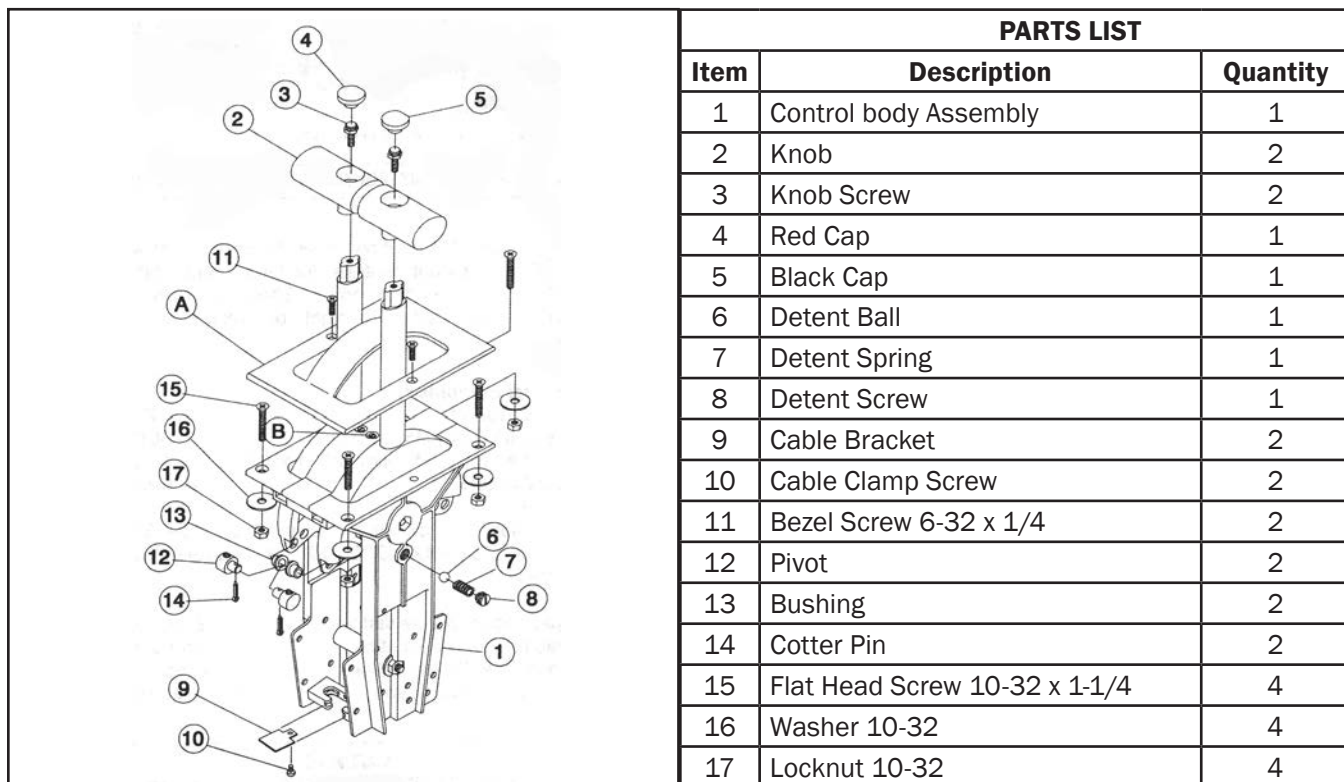
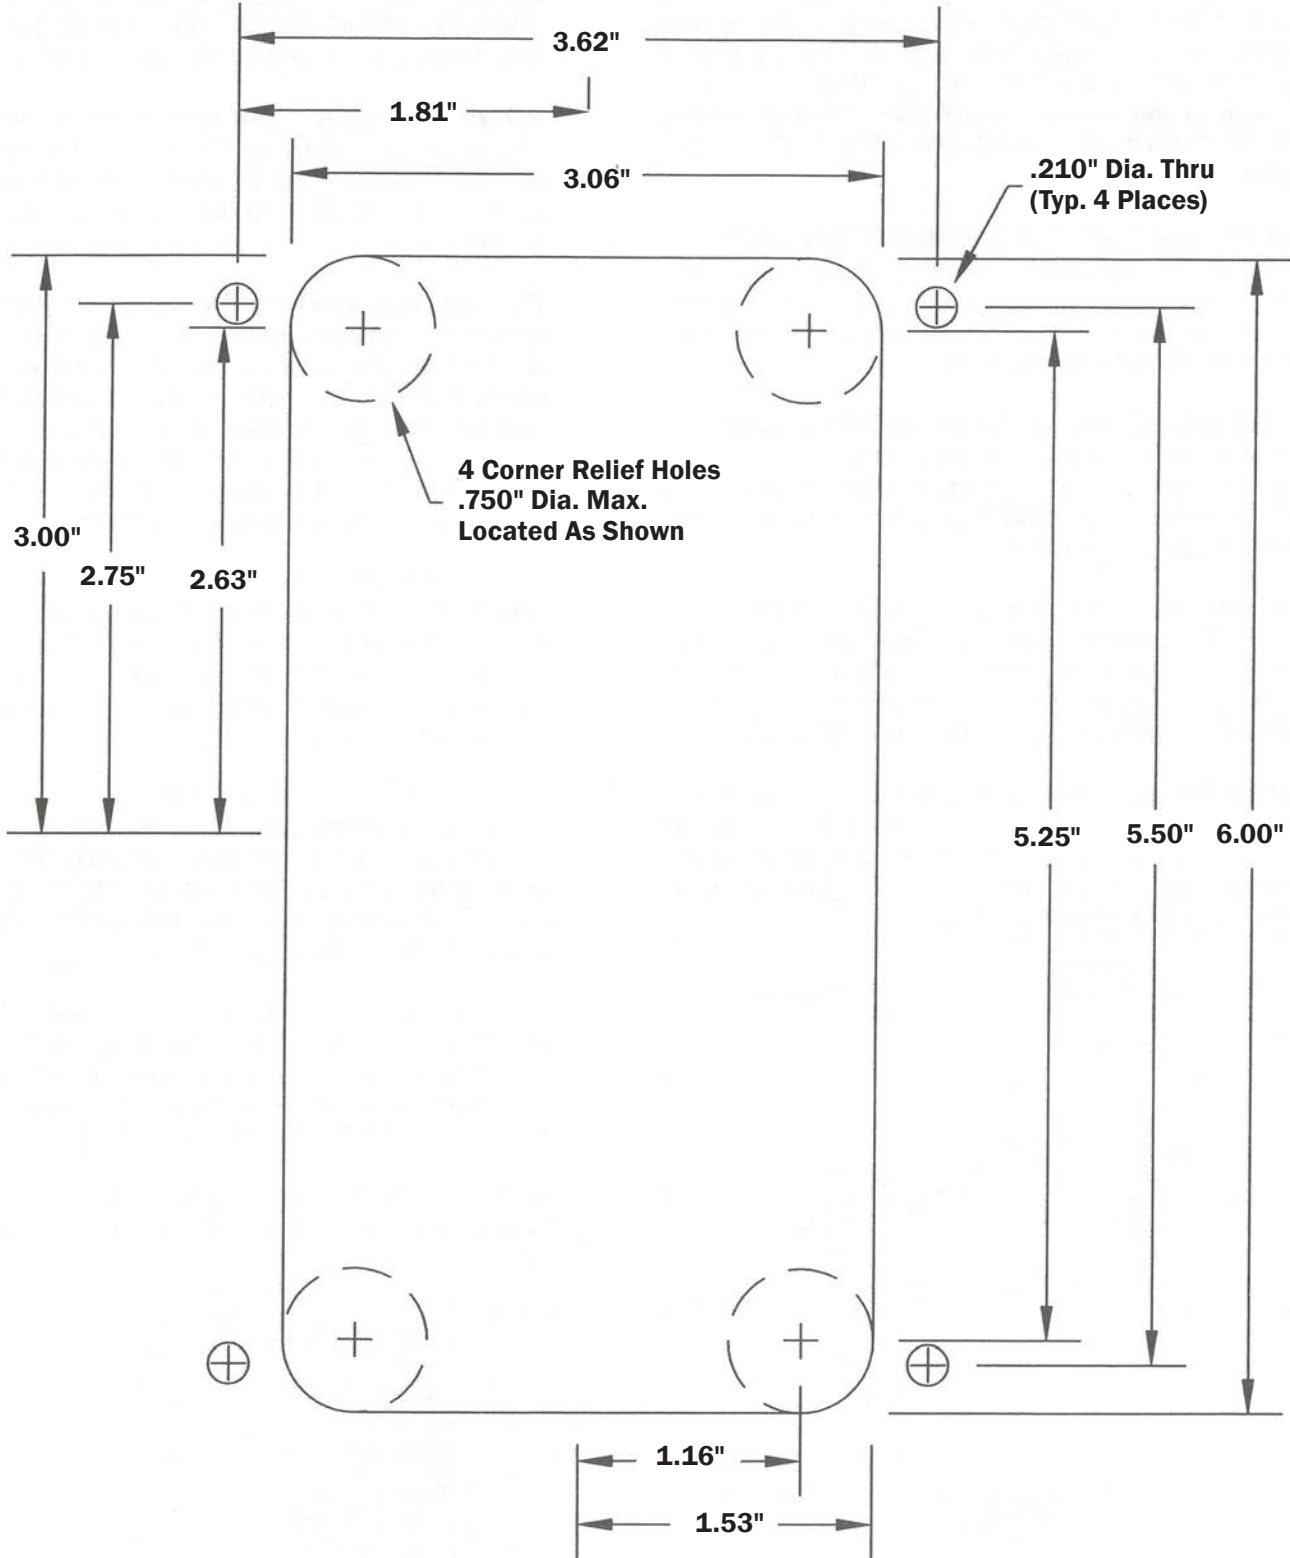

Figure 3.
Figure 5.
**STEP 2.** Detent kits are provided for use on the shift lever. See Figure 3. For single engine use, install as shown. For twin engine use, install detent kits from both controls into the control which will have both shift levers. In two station systems, detents are used in the lower station controls only. **DO NOT INSTALL DETENTS IN UPPER STATION OF TWO STATION SYSTEMS.**
**STEP 4.** Carefully lift the top bezel (A) from the control. If the bezel is black it will snap off, if the bezel is chrome it will lift off. The control is now ready for installation.
**STEP 5.** At each control location, position the template (Figure 5) and carefully mark the holes and cut-out. Recheck the location and clearances, and, if they are correct, drill the holes and make the cutout.
**STEP 5.** Place the bushing (13) in the outermost holes in the control arms, insert the pivots in the bushings, and retain the pivots in place with cotter pins (14). See Figure 3.
**STEP 6.** Place the control in position in the cutout and secure in place using screws (15), washers (16) and locknuts (17).
**STEP 7.** Check that the control moves freely from full forward to full reverse position. The handle friction can be adjusted by means of turning the screw (B) in the top of the control body. See Figure 3. Increase friction by turning screw clockwise, decrease friction by turning the screw counterclockwise.